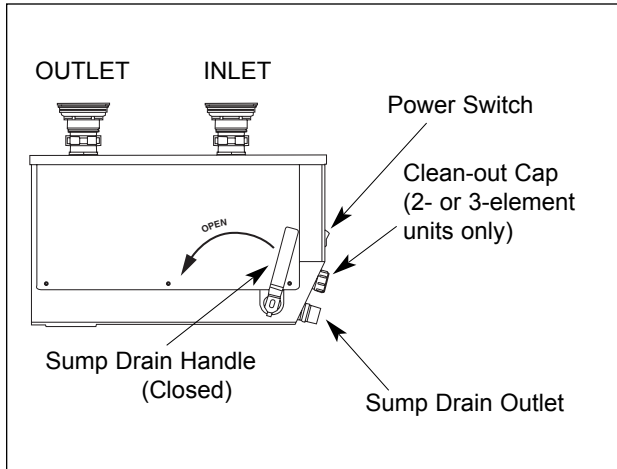

Figure 10. Hydro-Heater Side View
DAILY (See Figure 10)
5. Close sump drain by moving handle all of the way forward **until it stops**. See Figure 10.
8. Remove clean-out caps and (2 or 3 element units only) (See Figure 10) insert cleaning brush, Hatco part #03.40.060.00, into all clean out and sump drain outlets. Use a scrubbing motion to clean the chambers.